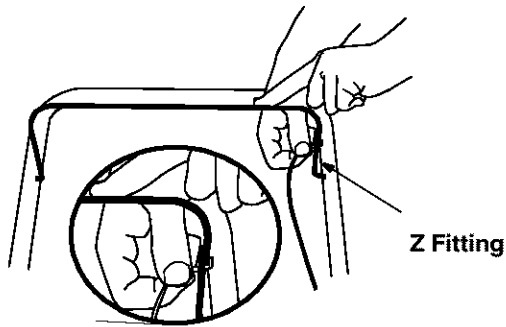

Figure 6
- Hold the cable end near the left side of the upper handle and hook the "Z" end of the brake cable into the blade control handle from the inside to the outside. See Figure 6.